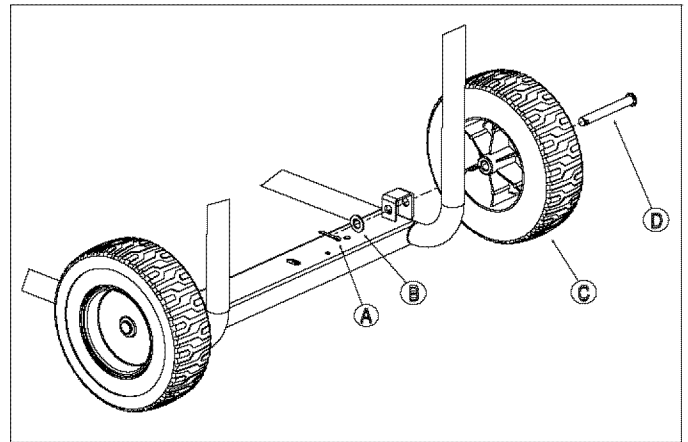

Figure 2-1. Wheel Assembly
1. Install the Wheels as follows (Figure 2-1):
- Slide the Axle Pin (D) through the Wheel (C), Wheel Bracket on the frame and a 5/8" Flat Washer (B).
- Insert the Cotter Pin (A) through the Axle Pin. Use the needle nosed pliers to bend open to lock in place.